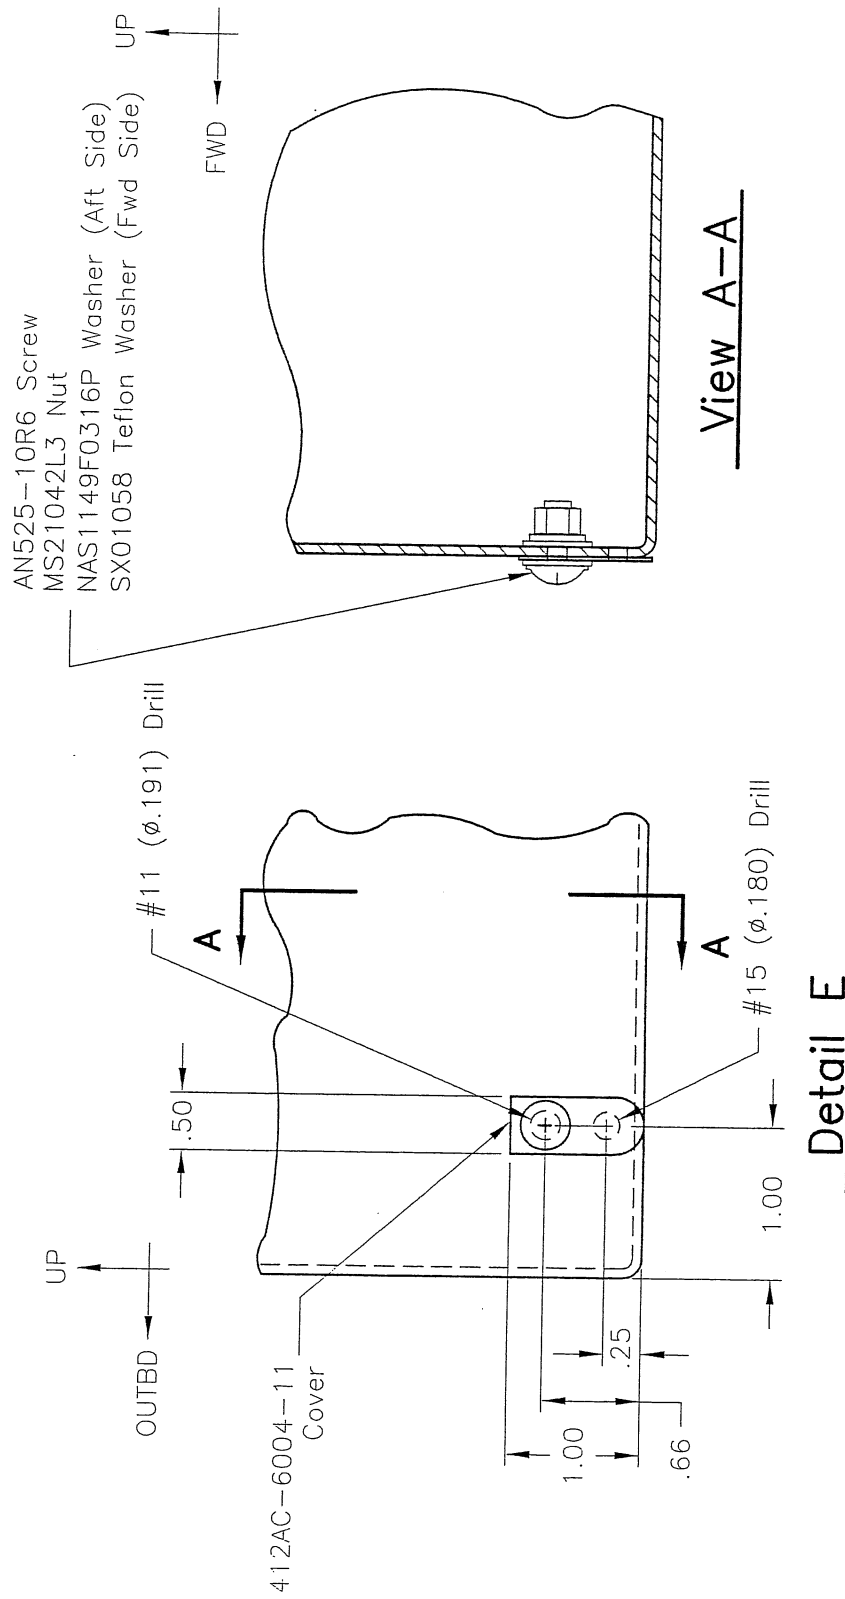

Figure 1-2 View of Detail "E"
3. Mark the forward right hand corner of the aft evaporator housing as shown in figure 1-2, Detail "E", and drill as shown.
6. Install the AN525-10R6 Screw, SX01058 Teflon Washer, and 412AC-6004-11 Cover through the upper (.191 dia.) hole in the forward surface of the aft evaporator housing (Figure 1-2, Detail "E").